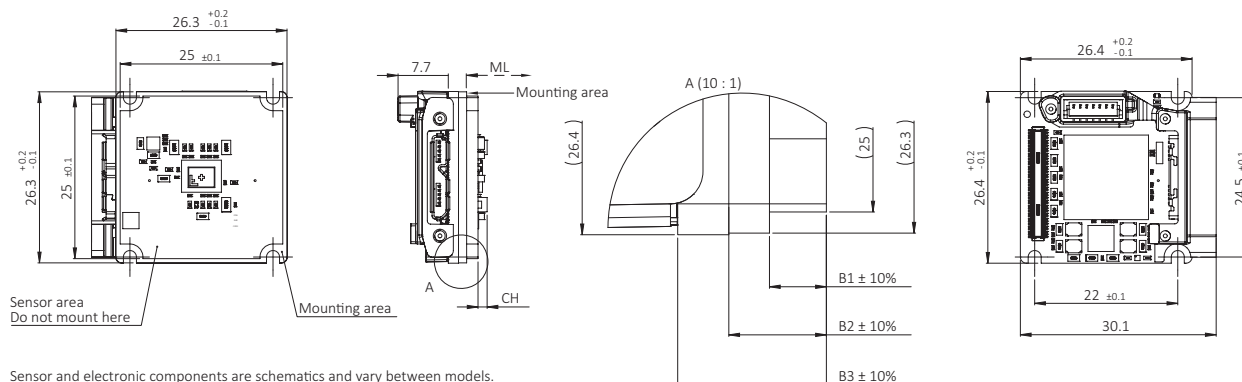

Figure 31: Bare Board 90° dimensions
Dimensions that are common between different models are shown in Figure 31, model specific dimensions are listed in Table 56. **Mechanical length (ML)** defines the mechanical distance from the mounting area to the lens mount front flange, without optical filter. **Components height (CH)** relates to the electronic components with maximum height, in some cases the sensor.